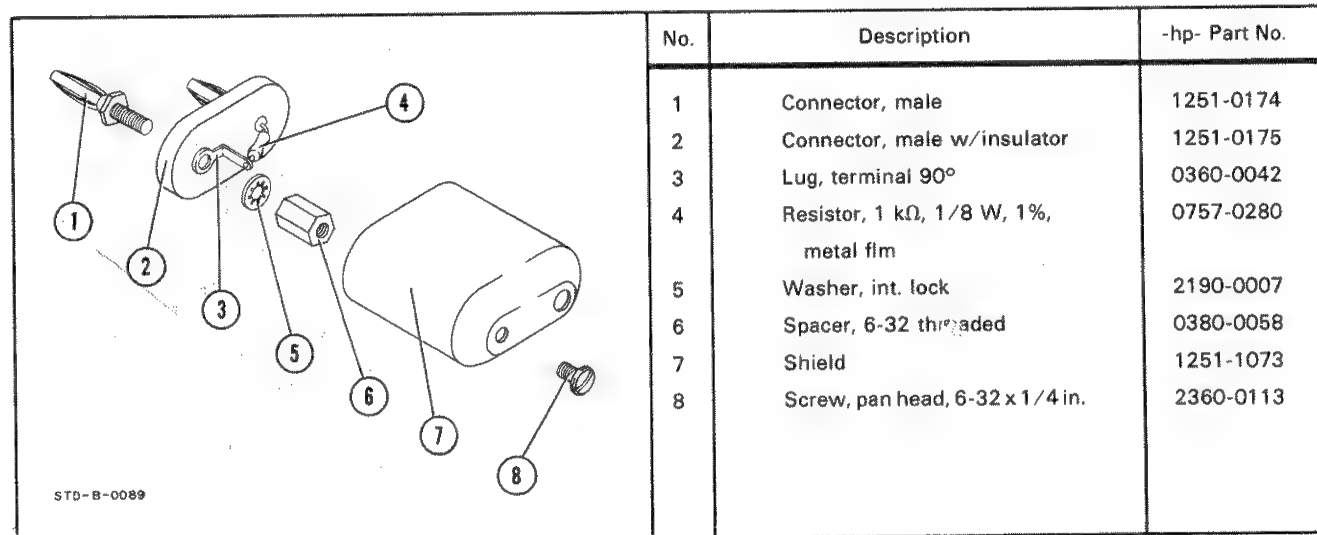

Figure 4-12. Shielded Load Assembly.
1 k Ω shielded load (Refer to Figure 4-12.)
b. Connect the 1 k Ω shielded load to the DISTORTION ANALYZER input terminals. (See Figure 4-12 for construction details of 1 k Ω load.)